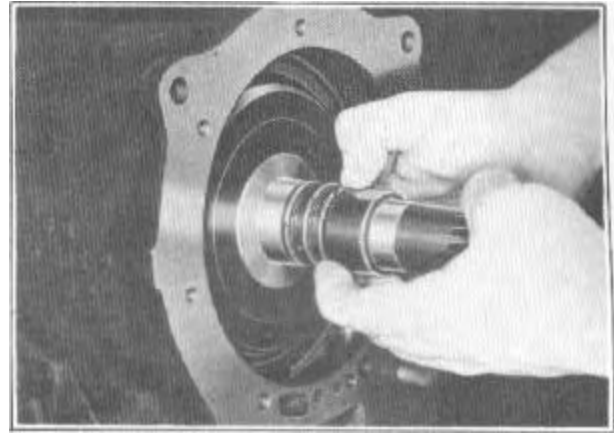

FIGURE 90
3. Remove the rings one at a time by holding one-half of the oil ring tightly in the ring groove while pressing against the lower part of the other half of the ring. This procedure will cause the end of the ring to lift and separate the ends of the ring, Figure 90.